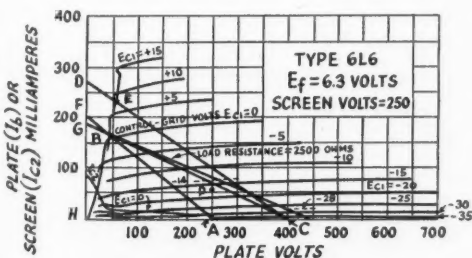
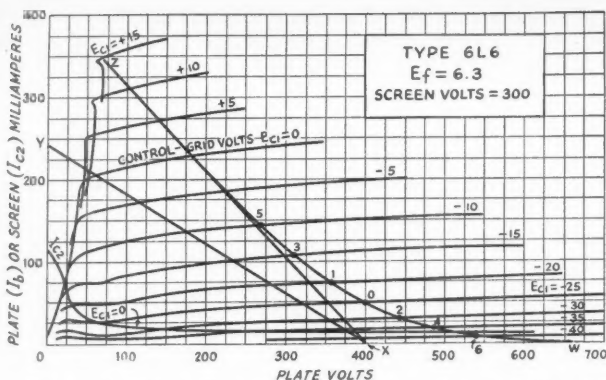
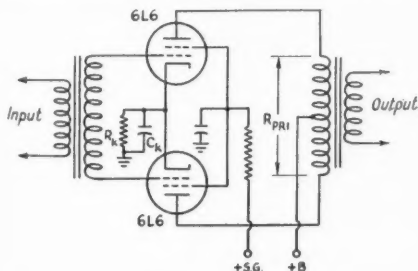

Fig. 1—Optimum load depends upon tube operating conditions. Load line AB is for Class-A, line BC for Class-AB₁, while line CD is for Class-AB₂ operation.
Fig. 2 — Load line XY is for Class-AB₂ operation, while line XZ is for Class-AB₁ use.
Fig. 3 — Push-pull circuit discussed in text.
1) Construction of load line. The construction of the push-pull load line is a simple operation, since we know that one point must lie on the plate-voltage coordinate at the applied-voltage point. This is point A in Fig. 1. Since maximum output is obtained when the grid signal swings to zero on the peak of its positive alternation, a second point is located on the zero-bias line. To obtain maximum output without distortion, this second point is located just ahead of the "knee" in the zero-bias line (point B). A line drawn between A and B represents the push-pull load line. As explained in the preceding installment, this load line represents the load presented to one tube when the other tube is not conducting. The actual load line for each tube is curved as shown in the last installment and curve ZW in Fig. 2. The plate-to-plate load is four times this value. Therefore, in Fig. 3,
3) The d.c. component of plate current per tube is located at the intersection of -16-volt E_c curve and the +250-volt plate-voltage ordinate, point P in Fig. 1. Point P represents a plate current of 60 ma. per tube or 120 ma. for both tubes.
1) In constructing the AB₁ or AB₂ load lines the same method is used in locating the two points through which the load line is drawn. In general, when maximum output is desired the plate and screen potentials are set at the maximum permissible values. Thus, in Fig. 2 the plate voltage is 400 and the screen 300. In constructing load lines for pentodes it is important that use be made of the set of characteristic curves which correspond to the correct screen voltage. Fig. 2 is for a screen voltage of 300 while Fig. 1 is for a screen voltage of 250. The screen potential of 250 volts is used for less output and less grid drive. The plate voltage may or may not be reduced, depending upon output desired. In the interest of obtaining less distortion and less critical operating conditions it is best to choose a class of operation which will do the job satisfactorily with a little power to spare, and not to extend operation beyond this point.
In Fig. 2 one point on both the AB₁ load line (XY) and the AB₂ load line (XZ) is at point X at the intersection of the zero plate-current coordinate and the supply-voltage point. For the AB₁ curve the other point is just before the "knee" on the zero-bias line; for the AB₂ line, just before the "knee" on the most-positive bias line. If less output is desired, the AB₁ line, BC, is drawn on Fig. 1 in the same manner. In the case of less output with AB₂ operation, the load line, CE, is drawn on Fig. 1. Point E on this load line is approximately on the 8-volt bias line because with the lowered screen potential the effect of the positive grid on the electron stream is more noticeable and it is not advisable to permit the grid to swing too far positive.
2) The slope of the AB₁ and AB₂ load lines in Fig. 2 are respectively $\frac{400}{0.24} = 1667$ ohms and
As mentioned previously, although the composite push-pull load line suffices to make all practical calculations for a push-pull circuit, the actual load line of each individual tube is a curved line. During the time when one tube is cut off, the load is $\frac{R_{pri}}{4}$ for the conducting tube. When both tubes are drawing the same current the load for each tube is an impedance of $\frac{R_{pri}}{2}$ because of the reflections between primary windings. This load gradually increases as the plate current falls toward zero until it reaches infinity at cut-off. The load line ZW in Fig. 2 will substantiate this fact. The method for drawing the curved load line was given in the previous installment; however a very simple method of accomplishing the same result is outlined below.